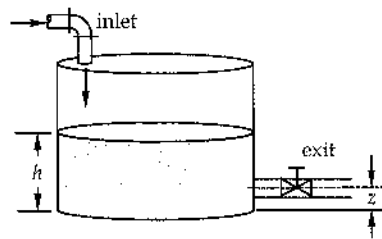

FIGURE P2.48.
48. A 4.2-cm ID pipe is used to drain a tank, as shown in Figure P2.48. Simultaneously, a 5.2-cm ID inlet line fills the tank. The velocity in the inlet line is 1.5 m/s. Determine the equilibrium height h of the liquid in the tank if it is octane. How does the height change if the liquid is ethyl alcohol? Assume in both cases that frictional effects are negligible, and that z is 4 cm.